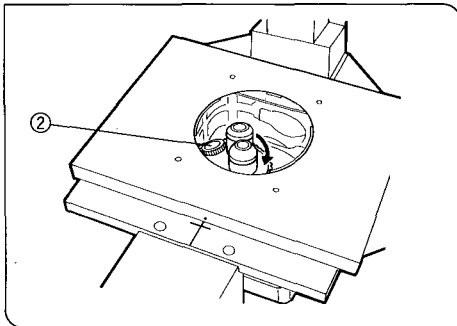

Fig. 20
★ In the inverted microscope, the front lens of the objective faces upward, and is more exposed to contamination than the objective of an upright microscope. Therefore, if there are empty sockets in the nosepiece, attach the dust caps ② provided. (Fig. 20)